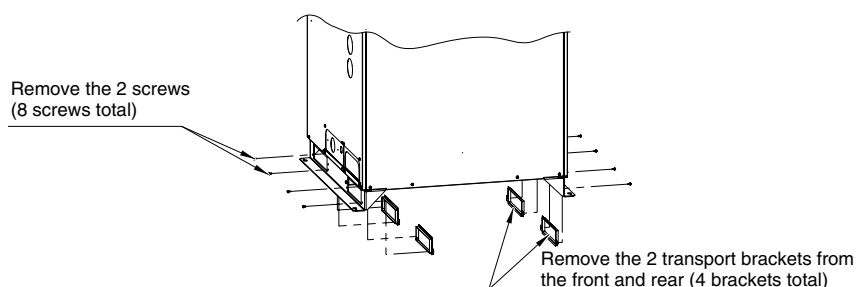

Fig. 4-5
- After installing the unit, remove the 2 transport brackets from the front and rear (4 brackets total). (Fig. 4-5)